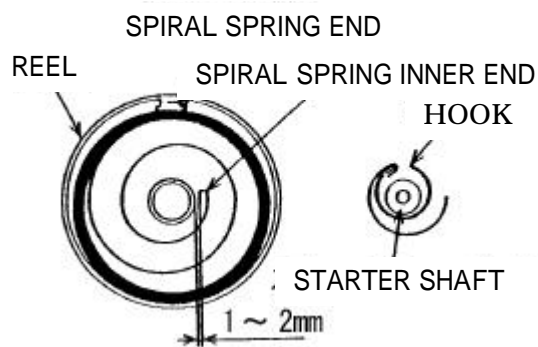
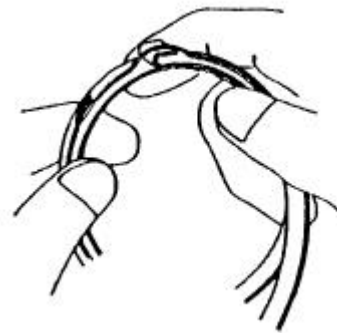

Fig.6-4
Fig.6-6
(Be sure to wear a piece of protective glasses during disassembling to protect against a danger caused by possible spiral spring 's coming away. If the spiral ring flies out, fit it correctly into the groove according to the procedures as shown in Fig. 6-6.)
(2) Make sure that the SPIRAL SPRING is fit completely in the spring groove of the REEL. Form the SPRING end to have 1 to 2 mm clearance between the SPIRAL SPRING inner end and REEL BUSH so that the STARTER SHAFT can hook on the HOOK securely as shown in Fig.6-4. The SPIRAL SPRING inner portion (about 10cm-long from the end) can be charged in shape.
Make a ring having a smaller diameter than that of the SPIRAL SPRING housing by a thin wire. Hook the SPIRAL SPRING at its outer end on the ring to wind it as shown in Fig.6-6, and fit it into the SPIRAL SPRING groove. Press the SPIRAL SPRING with your finger to prevent it from coming away and remove the ring slowly. The ring can easily be removed by prying it with the tip of a screwdriver. See Fig.6-4 for how to fit the SPIRAL SPRING correctly into the groove.